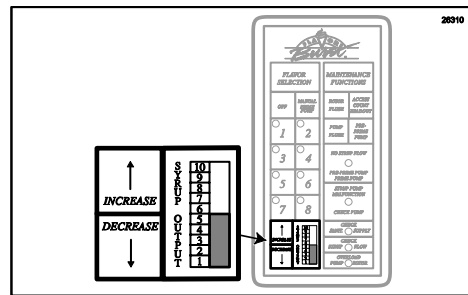

Figure 176
2. Adjust the flavor output to #5 on the Keypad SYRUP OUTPUT bar by touching the INCREASE or the DECREASE key. (See Figure 176.)